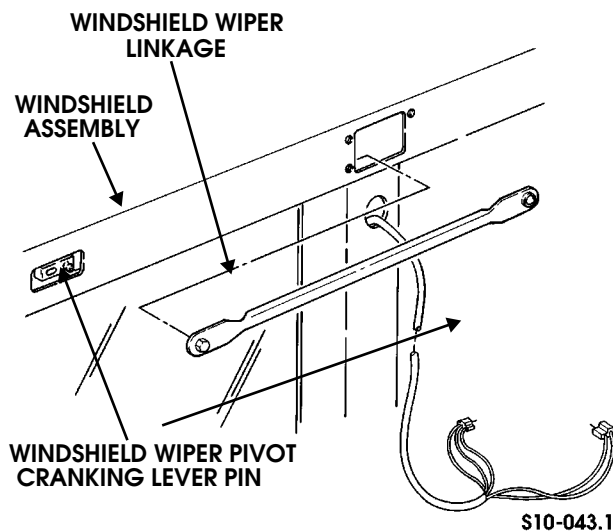

Figure 10-112: Windshield Wiper Linkage Replacement
3. Disconnect windshield wiper linkage from windshield wiper pivot cranking lever pin and remove windshield wiper linkage (Figure 10-112).
1. Secure windshield wiper linkage to windshield wiper pivot cranking lever pin (Figure 10-112).